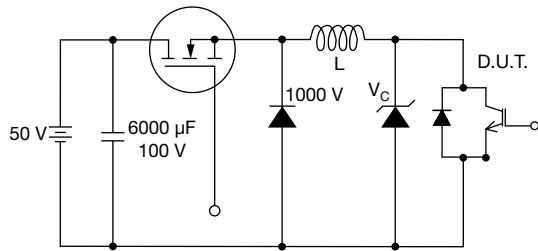

Fig. 19 - Clamped Inductive Load Test Circuit
(2) $V_{CC} = 80\%$ (V_{CES}), $V_{GE} = 20\text{ V}$, $L = 10\text{ }\mu\text{H}$, $R_G = 10\text{ }\Omega$ (see fig. 19)